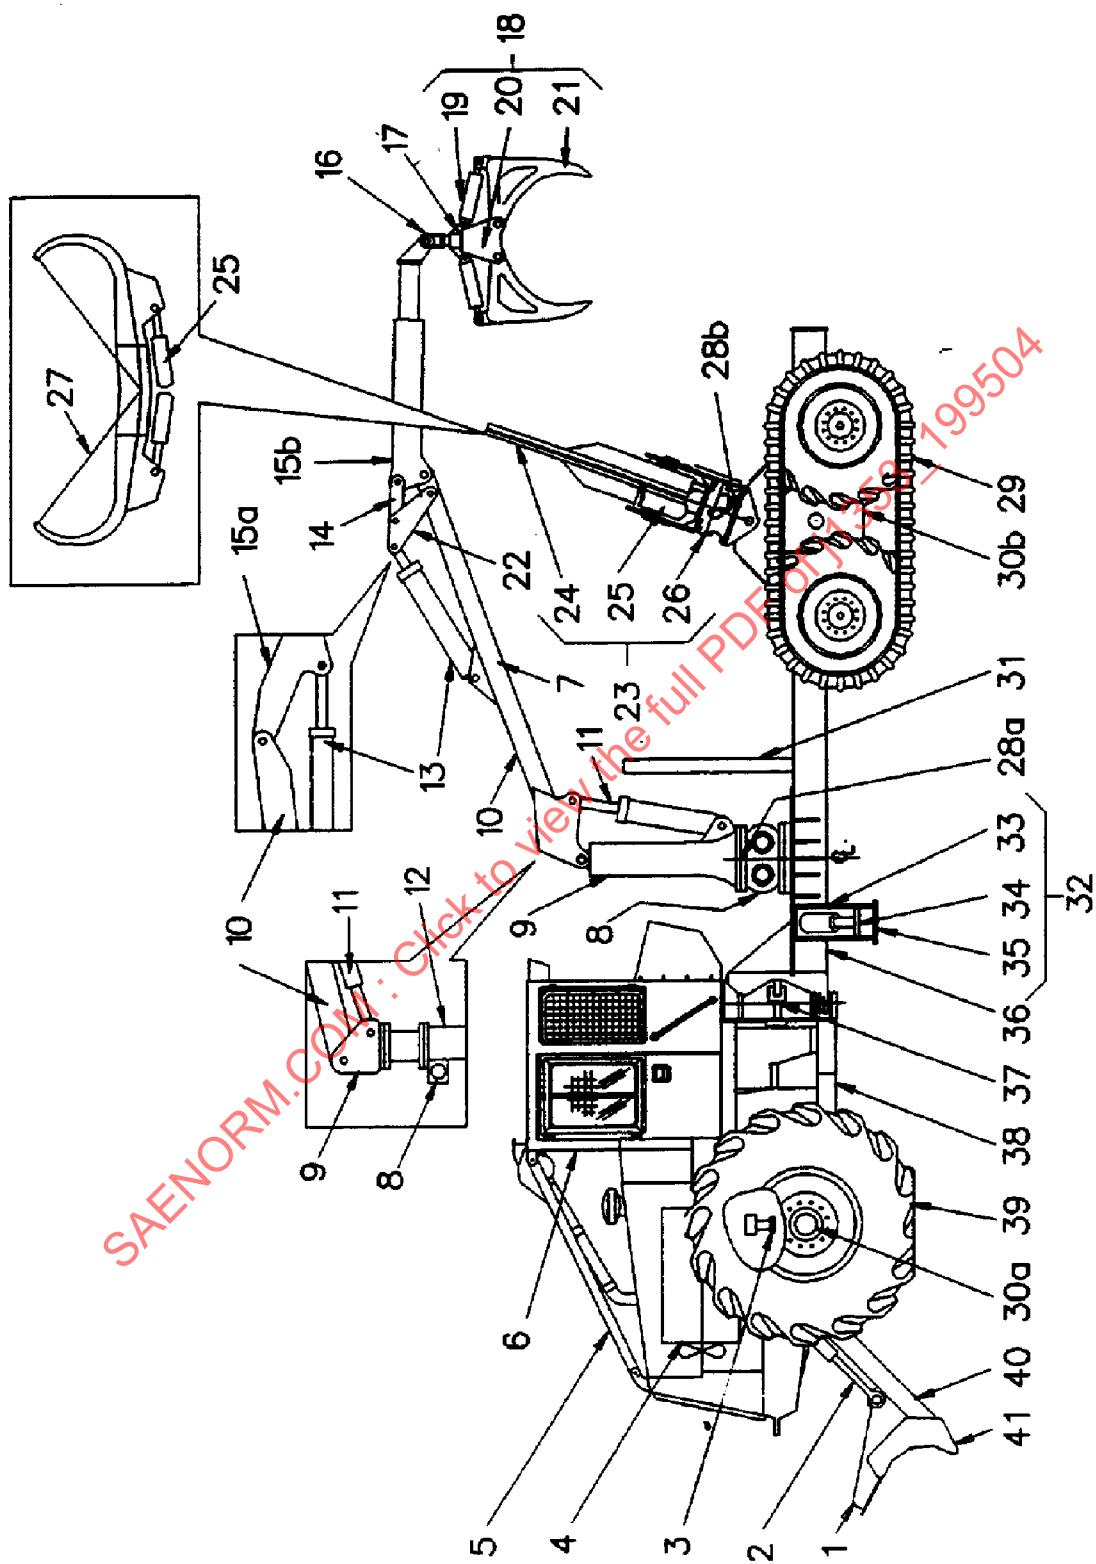

FIGURE 1—CLAM BUNK SKIDDER
- 3.1 **Clam Bunk Skidder (Figures 1 and 2)**—A self-propelled machine designed to transport trees or parts of trees by trailing or dragging by using an integrally mounted grapple loader to assemble the load and clam or top-opening jaw to hold the load.